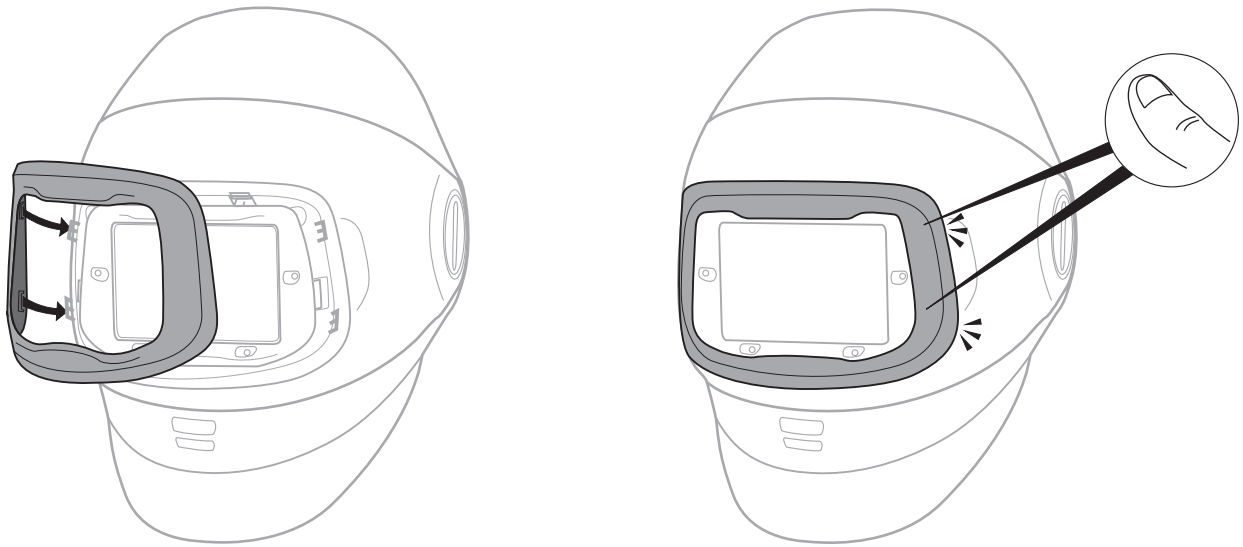

Fig. 21k
- h. Finally, reinstall the outer ADF frame by hooking on the left (as you face the welding helmet) and firmly push it into place on the right, again until an audible “click” is heard. (Fig. 21k).